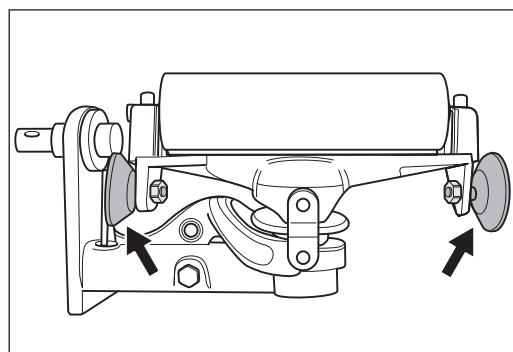

Fig. 71 **The two guide rollers at the drive unit must be rotatable easily! Otherwise they must be replaced!**
- The two guide rollers at the drive unit must be rotatable easily (Fig. 71)!